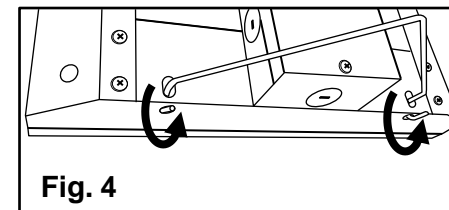

Fig. 4
6. Hook the **hangers** into the **oblong holes** in the back of the fixture and through the **round holes** on the end of the fixture. [Fig. 4]